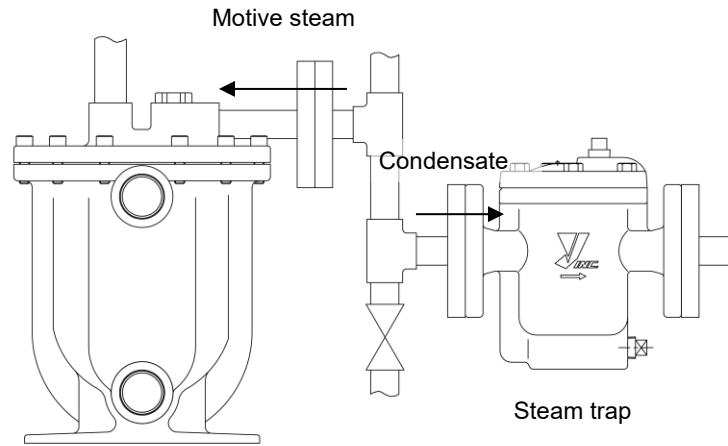

Fig. 8
(10) Attach the steam trap to the motive steam pipe for discharging. (See Fig. 8.)